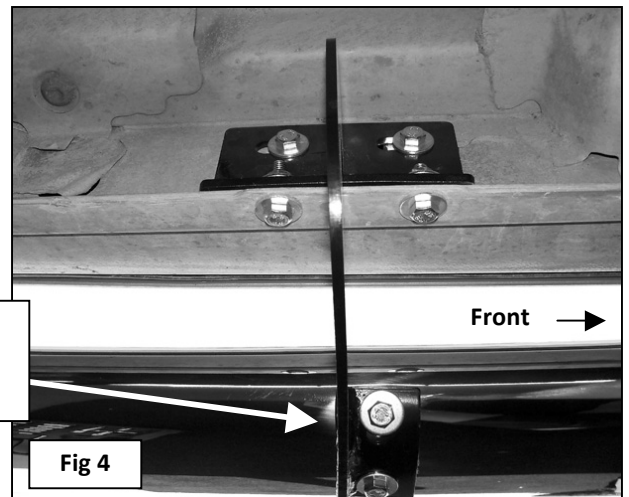

Fig 4
6. Carefully position the Sidebar onto the Mounting Brackets and attach it using the included (4) 8mm x 25mm Hex Bolts, (4) 8mm Lock Washers and (4) 8mm STD Flat Washers, **(Figure 4)**. Do not tighten hardware at this time.